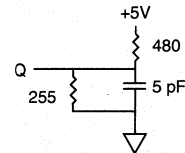

Fig. 2 OUTPUT LOAD EQUIVALENT
6. ^tHZCE, ^tHZWE and ^tHZOE are specified with CL = 5pF as in Fig. 2. Transition is measured ± 500mV from steady state voltage.